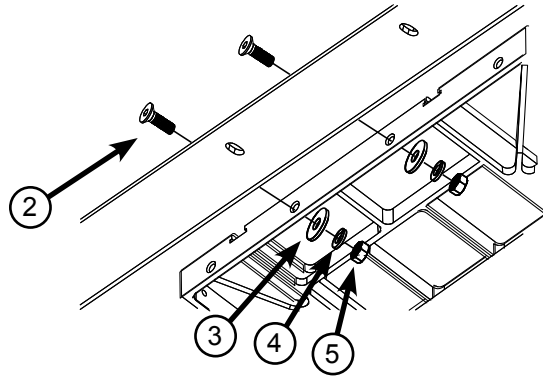

Fig. 1b
1. Begin mounting the front rail (the longer of the two rails) to the front edge of your saw by centering the notches in the rail with the two miter slots in the table, aligning the two holes in the rail between the notches with the two corresponding holes in the front edge of the table, and inserting an M8 x 25 countersunk socket head bolt into each hole (see Fig. 1a). Aligning the two holes between the notches aligns all the other holes used in mounting the rail to your saw. Not all the holes are used to mount the rail to your saw; different holes are used for different saws. Insert the bolts one at a time, placing an M8 washer and an M8 lock washer on the threaded end of each bolt and then threading on an M8 hex nut (see Fig. 1b). Hand tighten the nuts; do not fully tighten them.